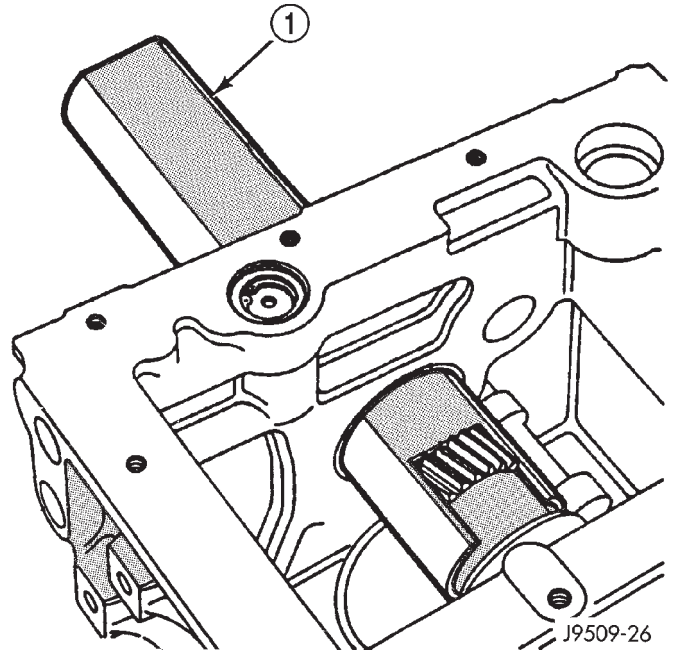

Fig. 110 Crankshaft Special Tool VM.1004
- (4) Remove the accessory drive system.
- (5) Remove the cylinder heads. Refer to cylinder head removal and installation in this section.
- (6) Remove the oil pan and oil pick-up.
- (7) Remove the pistons and connecting rods.
- (8) Remove the vibration damper. Refer to vibration damper removal and installation in this section.
- (9) Remove the timing gear cover. Refer to timing gear cover removal and installation in this section.
- (10) Remove the oil pump and vacuum pump from block.
- (11) Install special tool VM.1004 onto crankshaft over gear (Fig. 110).